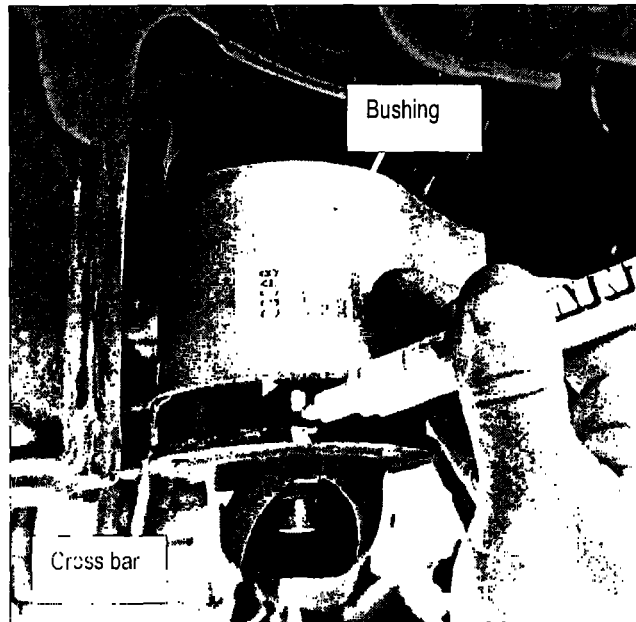

Figure 23
26. Place an index mark across the bushing and cross bar for proper re-assembly (see Figure 23).